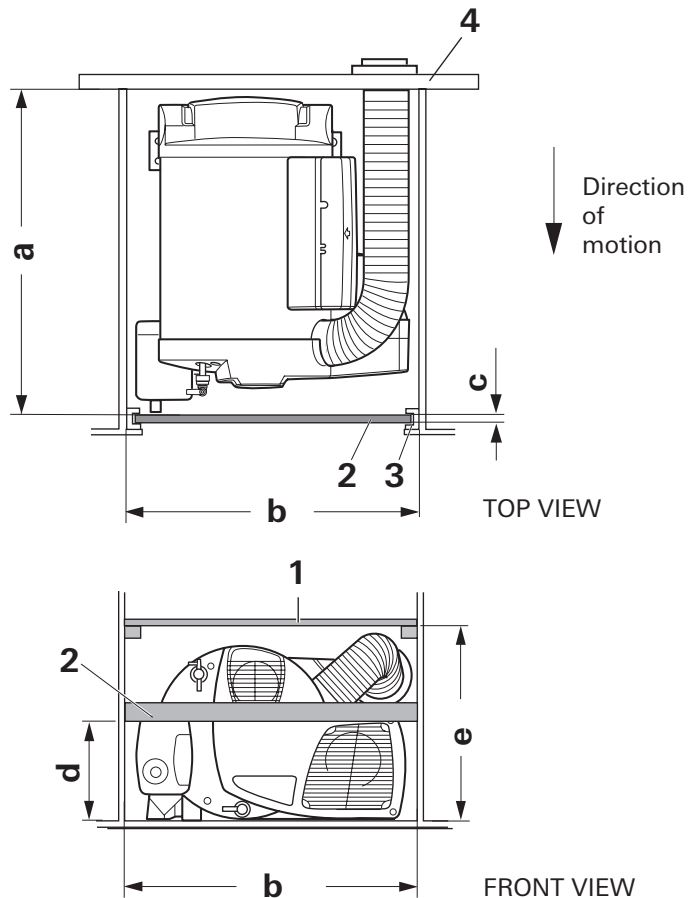

Fig. 4a
- Install the Combi furnace in a sturdy compartment (Fig. 16). If there is no suitable compartment, install a sturdy wood-slat or equivalent in front of the Combi furnace vertical to the direction of motion to avoid movements of the furnace in case of an accident (Fig. 4a – 2).
See Fig. 4a for the minimum installation dimensions.